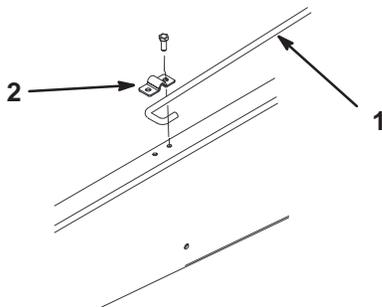

Figure 10
5. Have another person help to raise the cargo box until the “J” hook end of the prop rod is positioned between the 2 holes on the left frame rail (Fig. 10).
6. Secure the prop rod to the frame rail with the prop rod clip and 2 screws (5/16 x 3/4 in.) (Fig. 10).